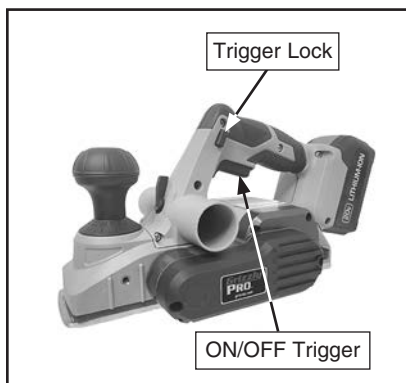

Figure 17. Hand planer controls.
9. Press trigger lock and squeeze ON/OFF trigger (see **Figure 17**). Allow cutterhead to reach full speed.